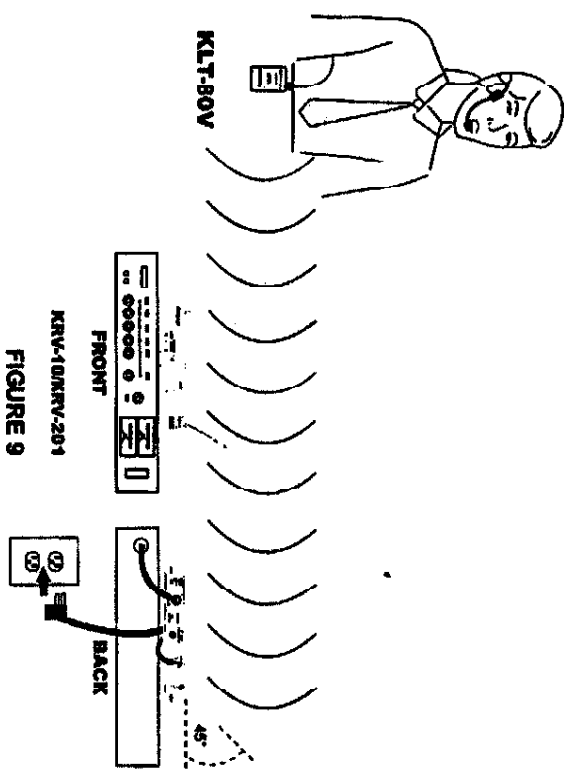

FIGURE 9
1. Refer to Figure 9, Connect the supplied ac power adapter to the DC INPUT connector on the back of the receiver. Insert the adapter's cable into the power cable retainer. (*suit of KRV-10*) Plug the adapter into a wall socket or other ac power source (use HD41N110 for 220VAC, 50Hz power, use HD41N110E for 120VAC, 60Hz power). Push the power switch on the face of the receiver, the red POWER light on the receiver will glow.